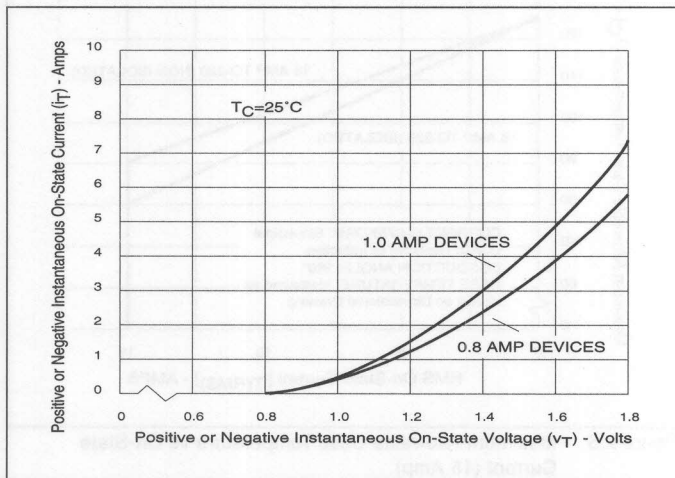

Figure 2.8 On-State Current vs On-State Voltage (Typical) (0.8 and 1.0 Amp)
- See Figures 2.8 through 2.10 for I_T vs v_T .